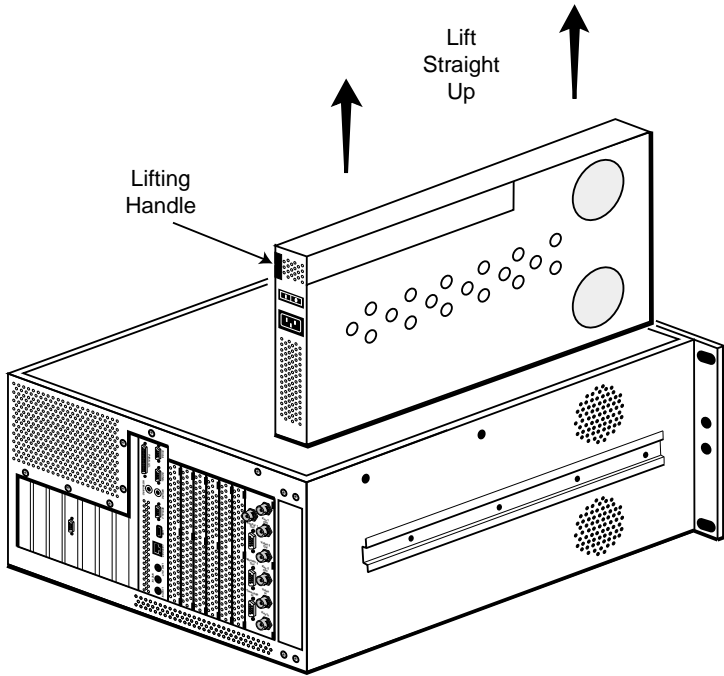

Figure 4-8. Power Supply Unit Lifting Handles
- [] 3. Refer to Figure 4-8. Firmly grasp the lifting handle as shown, and lift the Power Supply straight up.
- [] 1. Refer to Figure 4-8. Grasp the Power Supply unit using its lifting handle, and orient the Power Supply unit as shown.